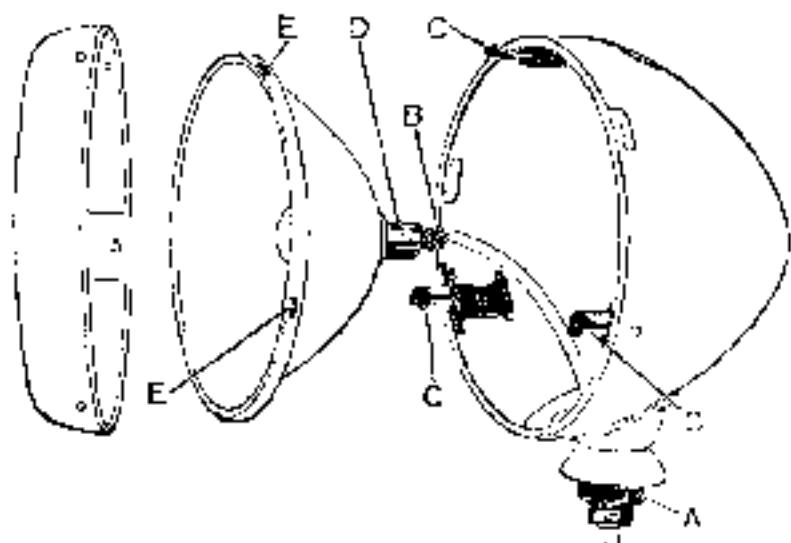

Fig. 4. Headlamp Disassembled
**Headlamps.** The headlamps are provided with a patented universally adjustable mounting which allows the beam of light to be set to the best advantage. This adjustment is obtained by slackening the hexagon locking nut "A" (Fig. 4), turning the lamp to the desired position and then locking it by tightening up the nut.
**Removing the Front and Reflector:** The Headlamps are constructed with detachable fronts, parabolic reflectors and focussing devices. To remove the front the round headed screw at the top of the lamp should be unscrewed and the front turned to the left as indicated by the arrow stamped on the rim. With the type of lamp illustrated in Fig. 4 it is only necessary to turn the front to the left to remove it. The reflector is held in position by three supports "C" from which it can be readily removed when necessary to refocus